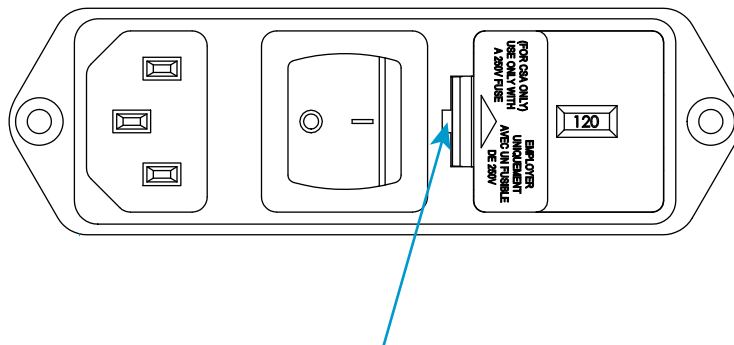

Figure 5. Prying out the fuse holder
1. Ensure that the power switch is in the Off (0) position and disconnect the power cable from the power source. Verify that no LEDs are illuminated on the frame control panel.
2. Insert a small flat-head screwdriver into the slot indicated in Figure 5 on page 39 and pry out the fuse holder.